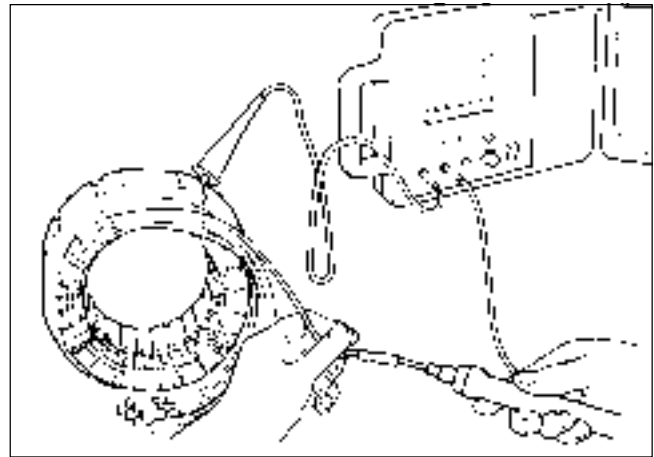

Fig. 11-3
(3) Check the insulation resistance between stator core and each stator lead using a Dr. Robin generator tester in megger tester mode or a megger tester. (Fig. 11-3)